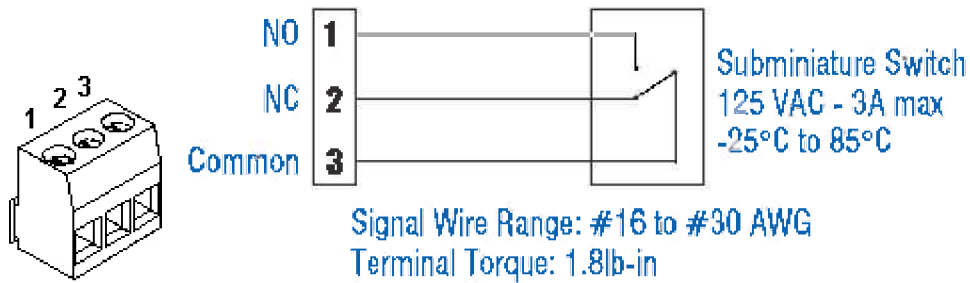

Figure 3
**4. Micro-Switch Installation:** Remote signaling is available on all I2R SA -50 products. #16 – #30 AWG signal wire may be used. Maximum torque rating for the terminal screw is 1.80 in-lb. The maximum continuous current rating for the remote indicator is 3A. Install signal wiring as shown in Figure 3.